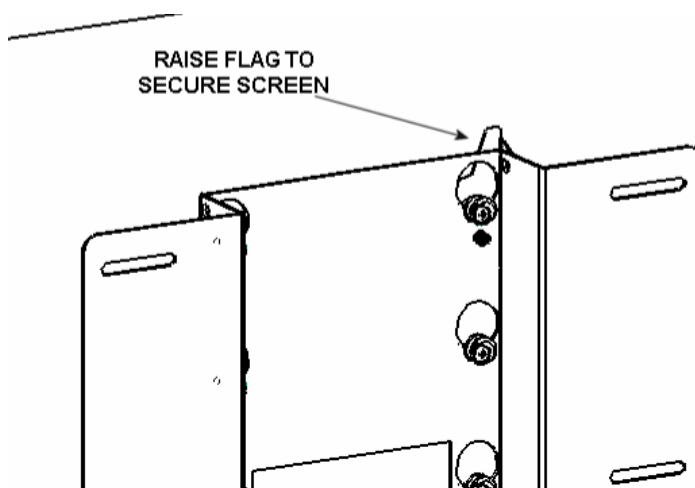

Figure 6
6. Position (raise) the flag to secure the display (See Figure 6). There is a hole in the side of the mount that aligns with the flag. If desired, a padlock can be used to secure the screen through this hole.